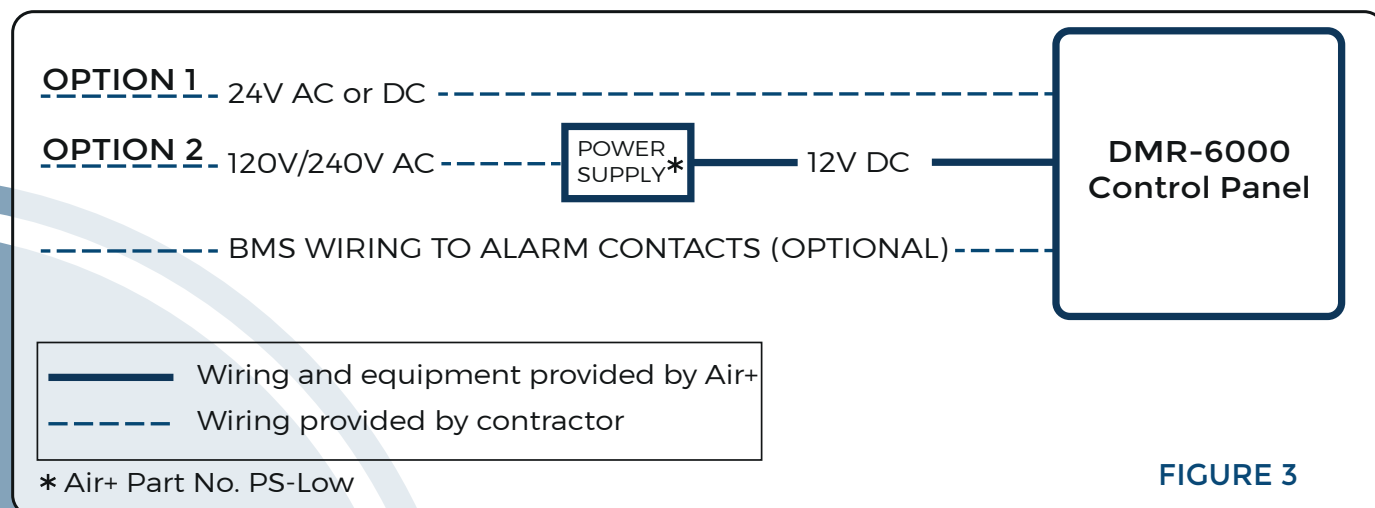

FIGURE 3
2. Power can be connected by either bringing 24V AC or DC directly to the terminal block on the unit or using a factory provided 120V/240V to 12V DC power supply (Air+ Part No. PS-Low). Connect 2.1mm pin to pin jack on the unit. (See Figure 3).
3. To communicate with the BMS, connect BMS wires to the terminal block on the outside of the unit. (See Figure 3).
The DMR-6000 has an Alarm Circuit that provides for communication to the BMS. The Alarm Circuit utilizes a relay with normally closed contacts. The contacts are open whenever the unit is not powered or there is a fault in the system. When the DMR-6000 is operating normally and producing ions, the contacts close and the LED on the outside of the unit will illuminate. Connect the BMS control wires to the BMS terminal block on the outside of the unit. (See Figure 3).